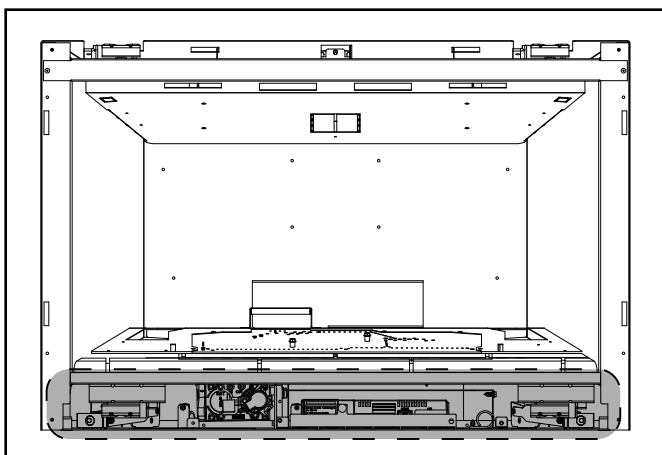

Figure 3.7 Control Cavity
- Access to the control cavity (Figure 3.7) will require the decorative barrier front, glass panel and the glass seal plate to be removed.